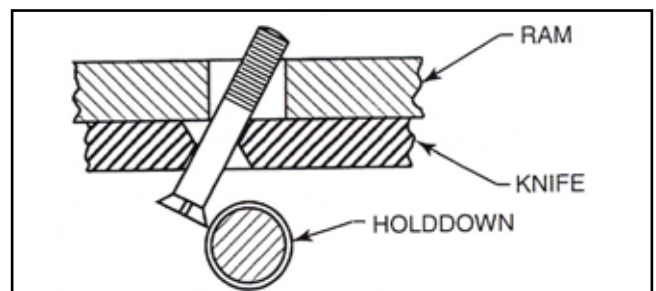

Figure 9-2 - Knife Bolt Behind Holddown Unit
11. Push the upper knife to the left as far as possible to provide clearance for the remaining bolts. Remove the remaining knife bolts as shown in Figure 9-2.